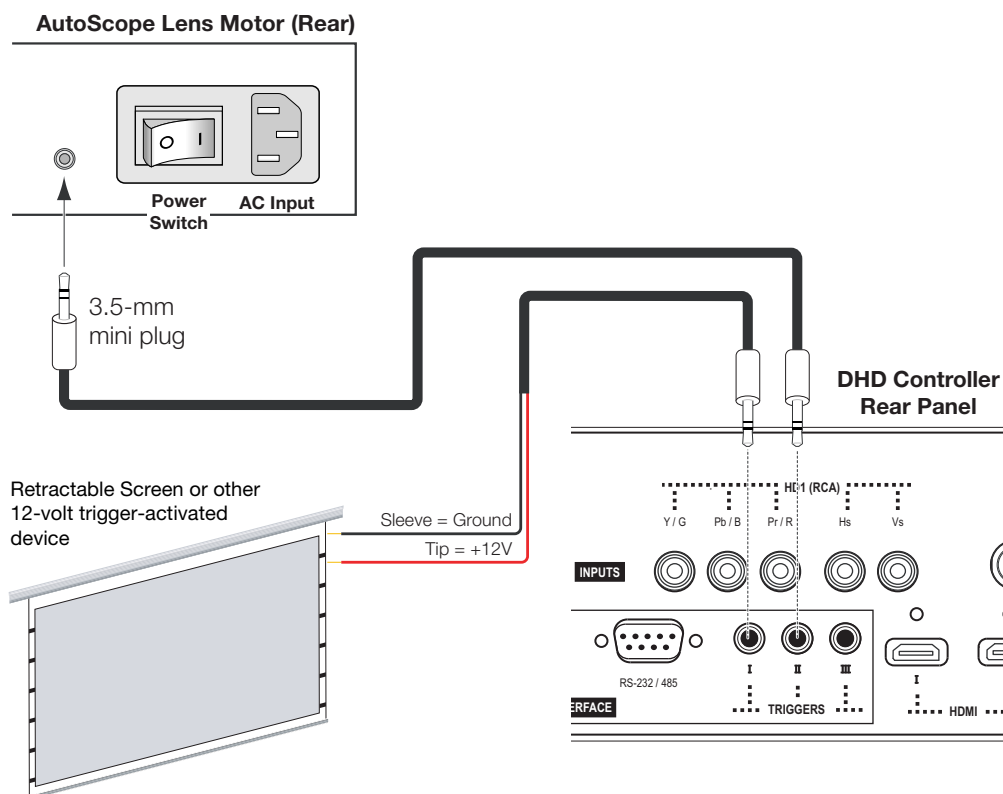

Figure 3-17. 12-volt Trigger Output Connections
If your VX-22d is equipped with a CineWide with AutoScope system, connect the AutoScope lens motor to a 12-volt trigger output on the DHD Controller; see Figure 3-17.
3. If this is an AutoScope-equipped projector, turn on the main power switch at the rear of the AutoScope lens motor. The lens motor power switch is located next to the AC input (see Figure 3-17).